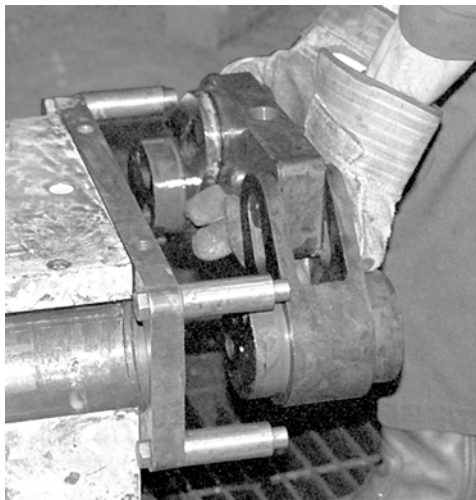

Figure 5-48. Installation/Removal of Lock Bar Lever Arm
16. Remove the two $\frac{5}{8}$ "-11NC cap screws (22) from the locking lever arm (10). Remove the locking lever arm (see Figure 5-48).
2. Install and bolt the locking lever arm (10) to the lever arm lock bar cover (11) with two 5/8”-11NC cap screws (22) (see Figure 5-48 on page 5-59).